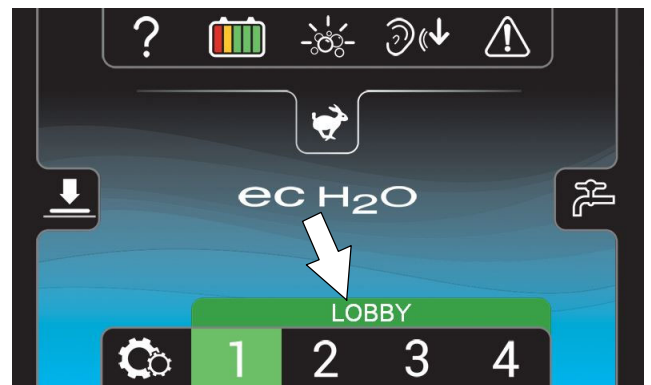

FIG. 72
4. The name will appear above the zone setting number when the zone button is pressed (Figure 72). Repeat process for other zone presets.